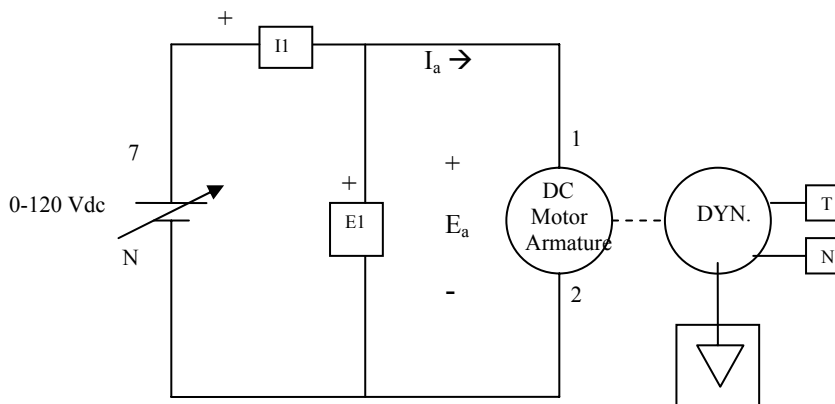
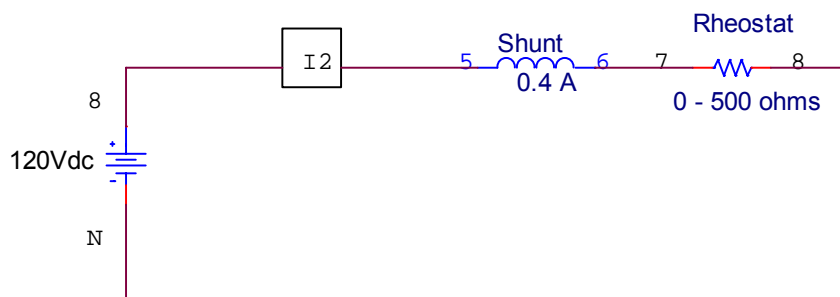

Figure 1a: Separately Excited DC Motor Armature Circuit
Figure 1b: Separately Excited DC Motor Field Circuit
9. Construct the separately excited DC motor using the DC Motor armature circuit of Figure 1a, and the DC Motor field circuit of Figure 1b. Connect the Speed, Torque, and ground leads from the Dynamometer to the DAI module.
11. Open the *Data Table Application* use it to record the input voltage (E1), armature current (I1), field current (I2), speed (N), and output torque (T). Use the power supply voltage control knob to increase armature voltage from 0-120 volts in approximately 10 volt steps, **do not exceed 1800 rpm**. For each voltage setting, wait until the motor speed stabilizes, then record the data in the data table.
13. Open the *Graph window* by selecting it from the *Data Application* toolbar. Make the appropriate setting to obtain a plot of DC Motor speed (N) vs. input voltage (E1). Use the edit graph function to title the graph “Lab 7 Plot 1 N vs. E1.” Name the x-axis “ Input Voltage (V dc)”, and name the y-axis as “DC Motor Speed (rpm).” Then save or print the graph for your report.